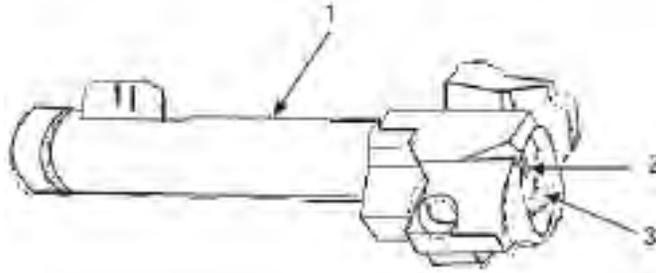

Figure 2. Bolt Assembly, Firing Pin Hde, Bolt Face.
1. Thoroughly clean bolt (Figure 2, Item 1) using CIP MIL-PRF-63640 (WP 0049, Item 3) and wipe dry with wiping rag (WP 0049, Item 11). Bolt must be free of oil, dirt, corrosion and carbon prior to inspection.
2. Inspect bolt body (Figure 2, Item 1) for cracks using inspection penetrant, firing pin hole (Figure 2, Item 2) for elongation and bolt face (Figure 2, Item 3) for pits.
3. If bolt body (Figure 2, Item 1) is cracked, firing pin hole (Figure 2, Item 2) is elongated, or bolt face (Figure 2, Item 3) exhibits more than minor pits, replace with a new bolt.